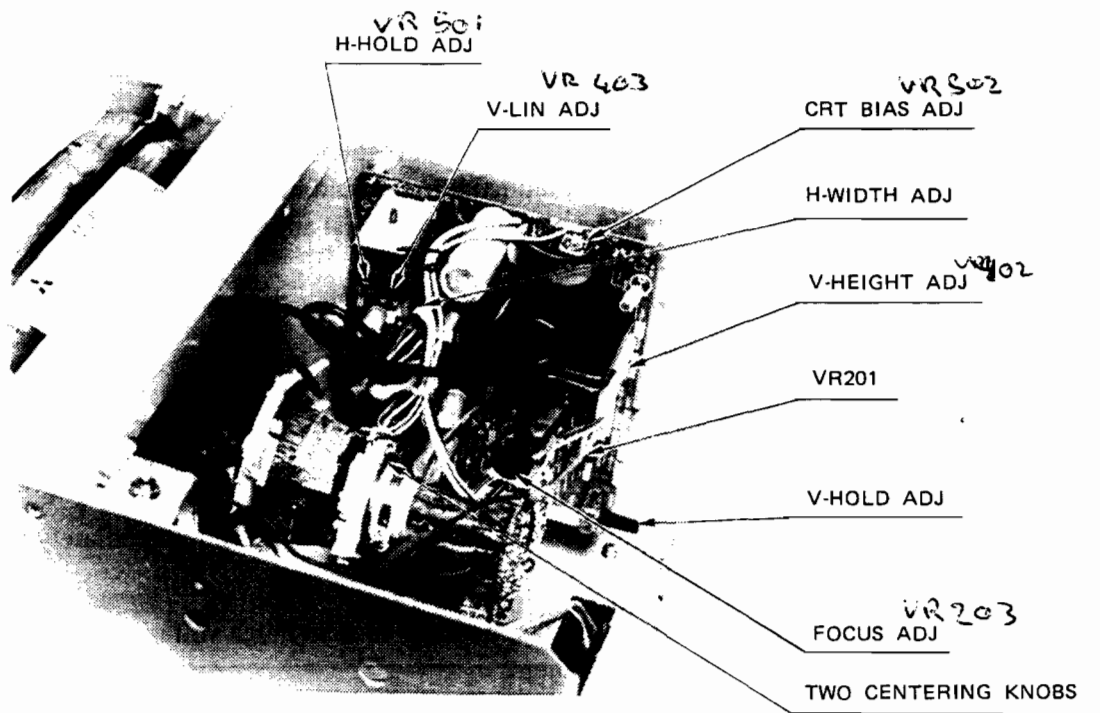

FIG. 5-2 BEAM CENTERING AND DISPLAY ADJUSTMENT
- 2) Beam centering adjustment on the CRT (*See Fig. 5-2*)